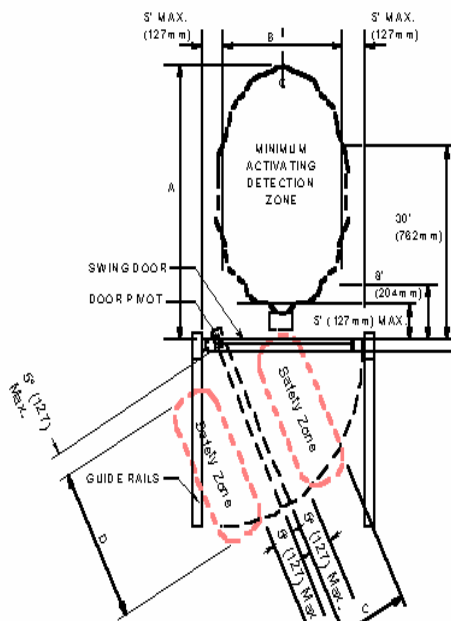

Figure 2
- If the door is equipped with a door mounted presence sensor, the door may start to open but should reverse, stop, or slow down. (See Figure 2).